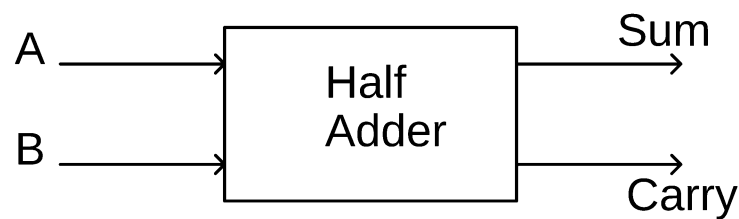

Figure 2.1: Half-Adder Functional Diagram.
The half adder accepts two binary digits on its inputs and produces two binary digits outputs, a sum bit, and a carry bit. The half-adder is an example of a simple, functional digital circuit built from two logic gates. The half-adder adds to one-bit binary numbers (AB). The output is the sum of the two bits (S) and the carry (C) as shown in Figure 2.1.